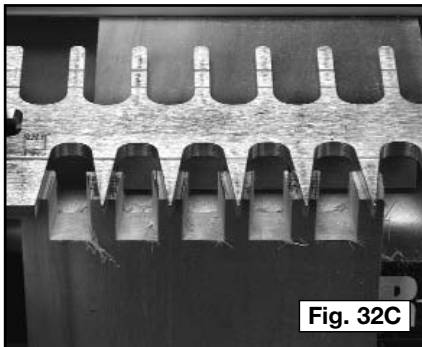

Fig. 32C
Step 4 - Cut all the pins (Fig. 32C).